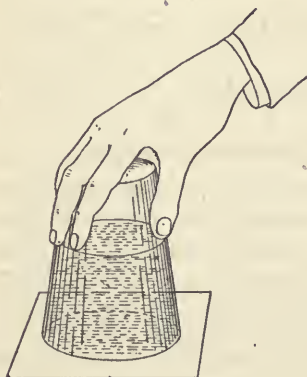

FIG. 35.—Air pressure keeps the water in the tumbler.
10. Fill a tumbler with water. Place a sheet of paper over the top and invert. The paper clings to the tumbler and prevents the water from escaping. Explain. (See Fig. 35.)